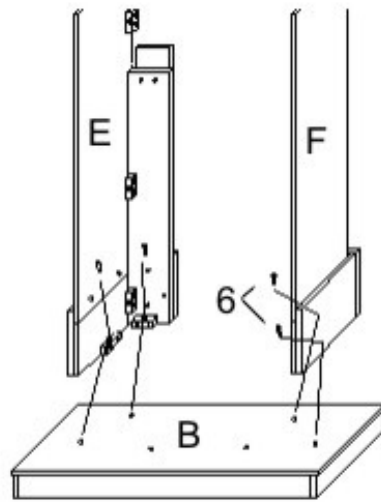

Fig. 6
**Step 6:** Attach the LEFT & RIGHT SIDE PANELS (E, F) to the BASE PANEL (B) with 4 KD SCREWS (2). See Fig.6.